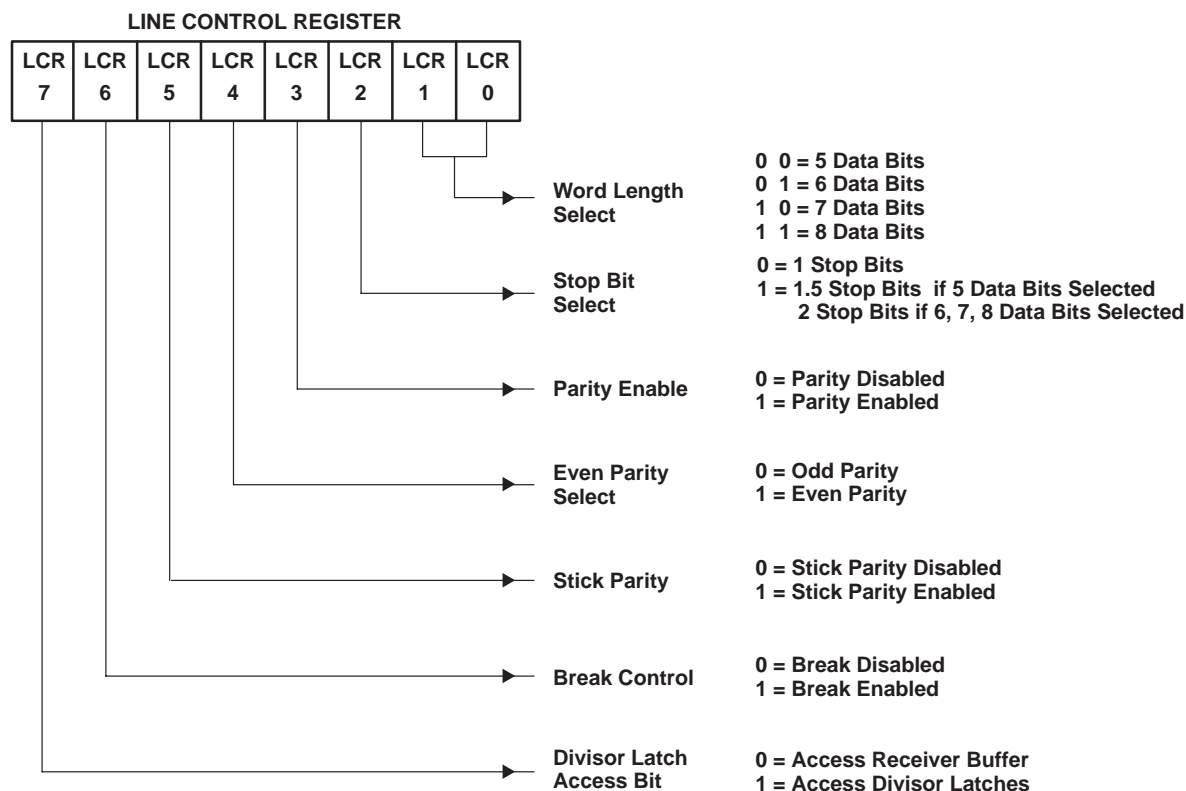

Figure 17. Line Control Register Contents
The format of the data character is controlled by the LCR. The LCR may be read. Its contents are described in the following bulleted list and shown in Figure 17.
- Bits 0 and 1: LCR0 and LCR1 are the word length select bits. The number of bits in each serial character is programmed as shown in Figure 17.
- Bit 2: LCR2 is the stop bit select bit. LCR2 specifies the number of stop bits in each transmitted character as shown in Figure 17. The receiver always checks for one stop bit.